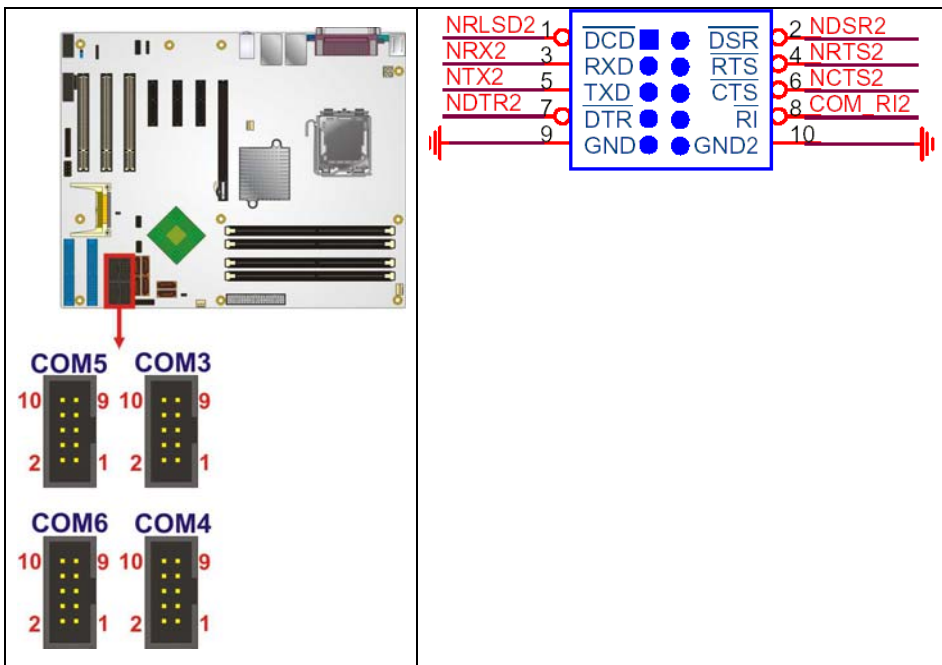

Figure 4-17: RS-232 COM Connector Pinout Locations
- CN Location:** See Figure 4-17